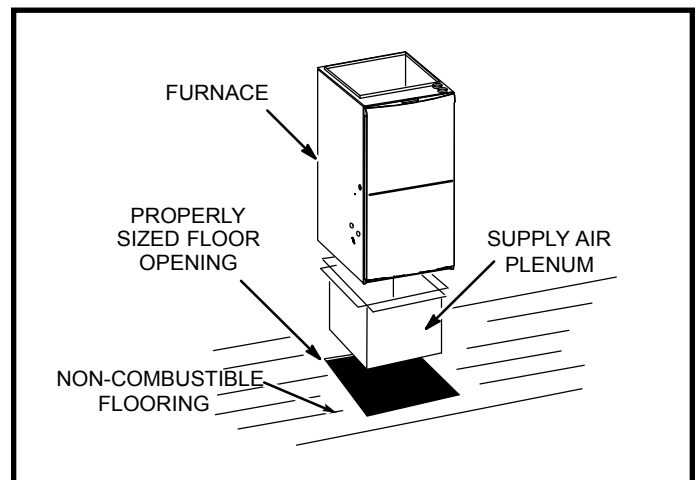

Figure 14
**Installation on Non-Combustible Flooring (Figure 14)**